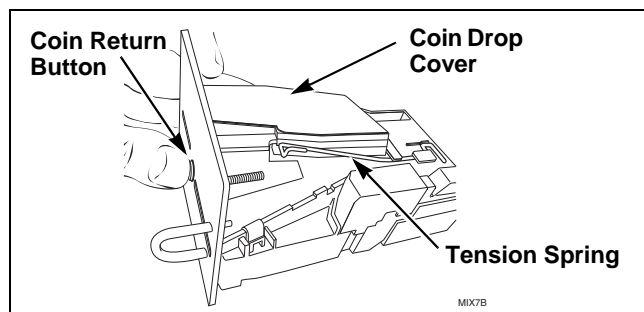
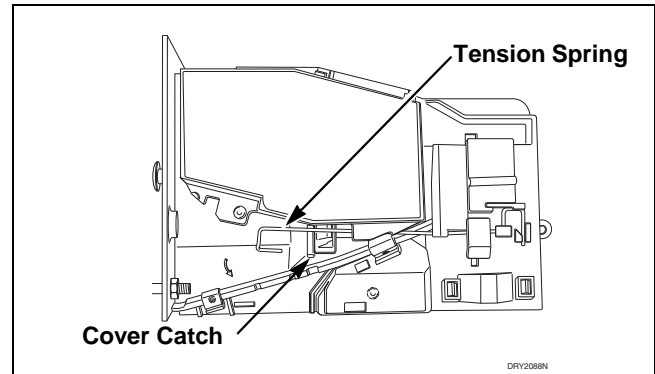

Figure 1
Figure 3
2. On electronic coin drops with an old-style tension spring (shown in *Figure 1* and *Figure 3*), test and replace tension spring using the following instructions.
1. Push coin return button to open and close coin drop cover to clear possible coin jams. Refer to *Figure 1*.
1. Move tension spring downward until cover catch is free. Refer to *Figure 3*.
16. Move tension spring over cover catch. Refer to *Figure 3*.